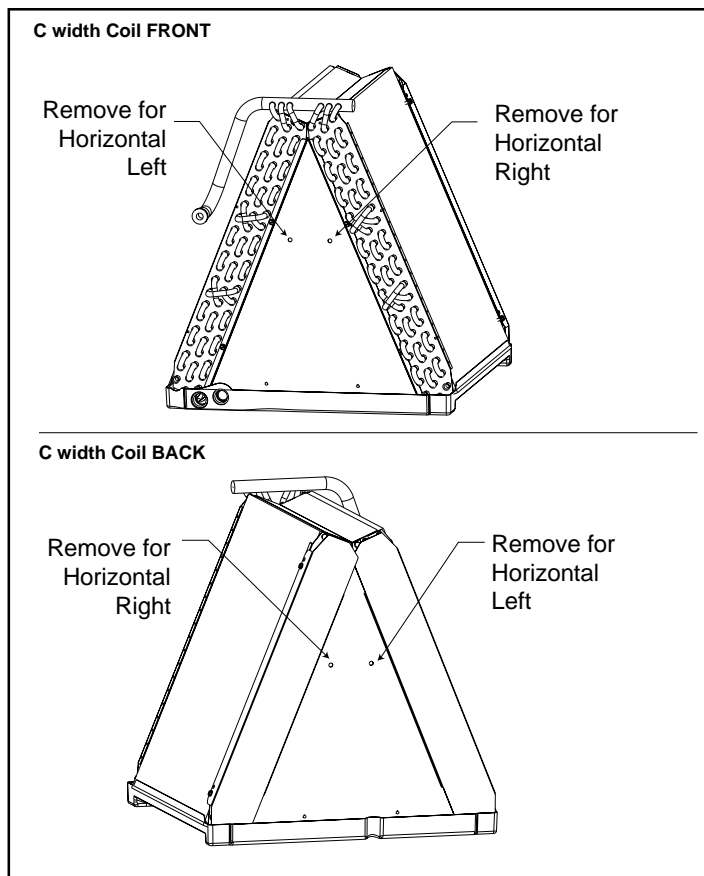

Figure 2
**For C-width cabinets:** The coil delta plates will have two sets of 1/4" knockouts used for either horizontal left or horizontal right. Remove the knockouts on the side of the coil that has the horizontal drain pan. (See Figure 2.)